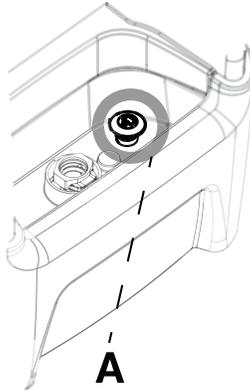

Figure 24: Drain plug
3. To drain the controller, pull up on the controller drain plug (A) to open the drain (Figure 24 on page 40). Leave the drain open.